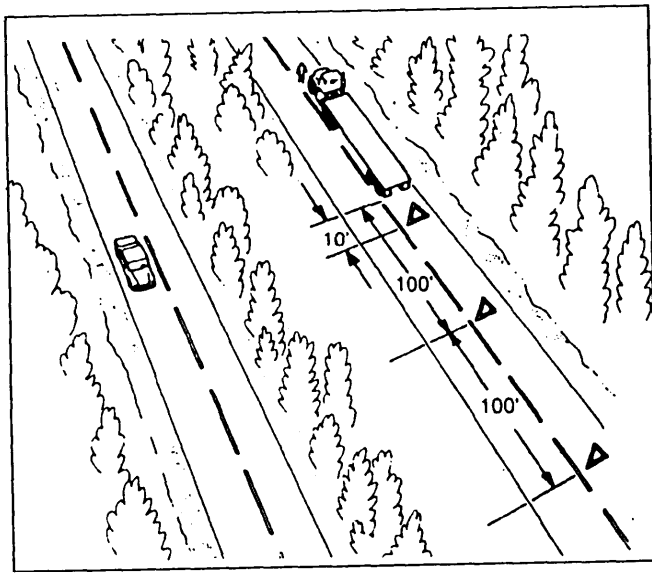

Figure 7-27.—Reflective triangle placement: one way or divided highway.
3. If you are stopped on or by a one-way or divided highway, place reflective triangles 10 feet, 100 feet, and 200 feet toward the approaching traffic, as shown in figure 7-27.